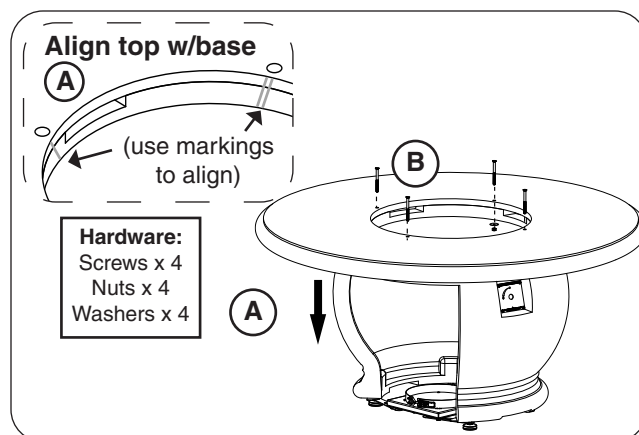

Fig. 27-2 Place top and fasten
3. **Carefully** place the top on the unit, ensuring that the markings along its inner ring align with those found on the base (see Fig. 27-2, A).
4. Use a flathead screwdriver and the supplied bolts (4), nuts (4), and washers (4) to fasten the top to the base as shown in Fig. 27-2, B.